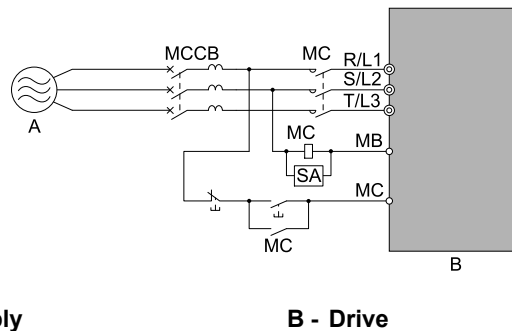

Figure 2.143 Connect an MCCB
- When you connect more than one drive or the drive and other device to an MCCB or RCM/RCD, refer to Figure 2.143, use a magnetic contactor (MC), and set a sequence that de-energizes the drive when it outputs errors.